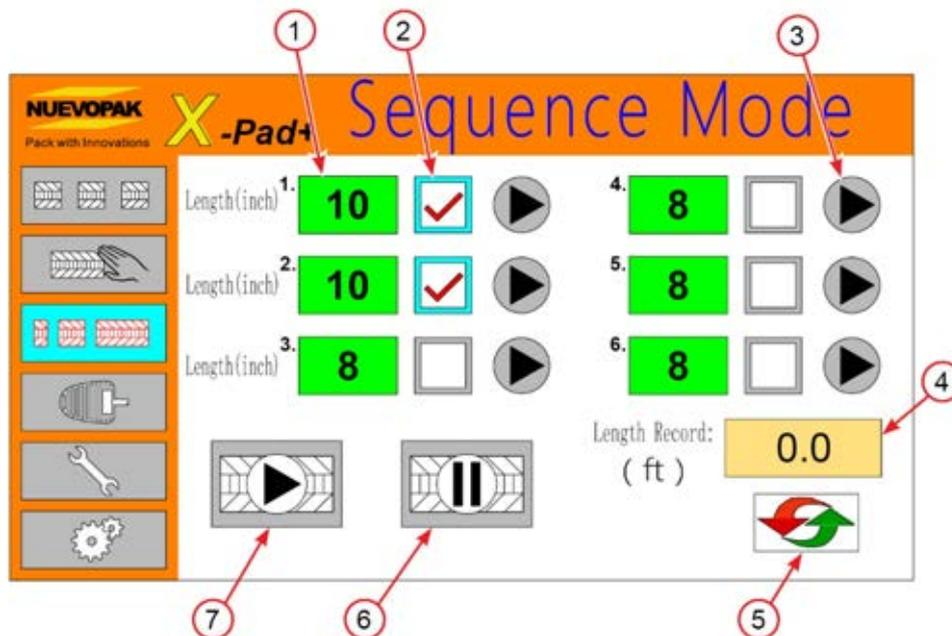

Figure 38 Sequence Screen
4. Change the pre-set number of cycles (refer to Figure 38).